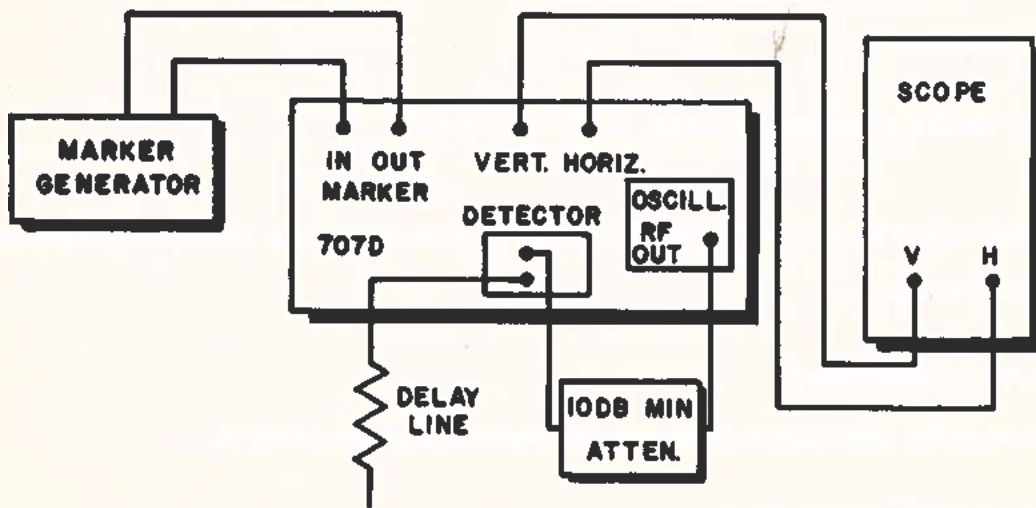

Figure 3. Setup to Align for Linearity
1. Set up Model 707-D and test equipment as shown in block-diagram Fig. 3.